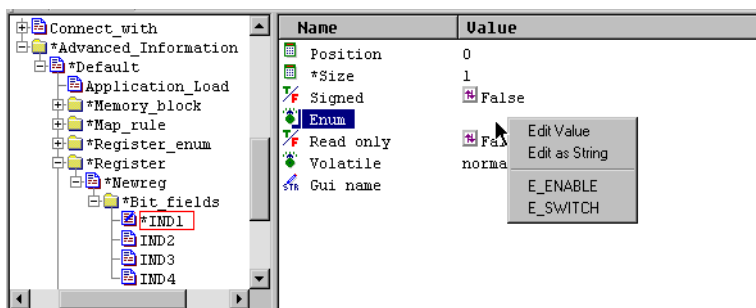

Figure 3-31 Creating bit field descriptions
12. Click IND1, in the left pane and set these values, shown in Figure 3-31: